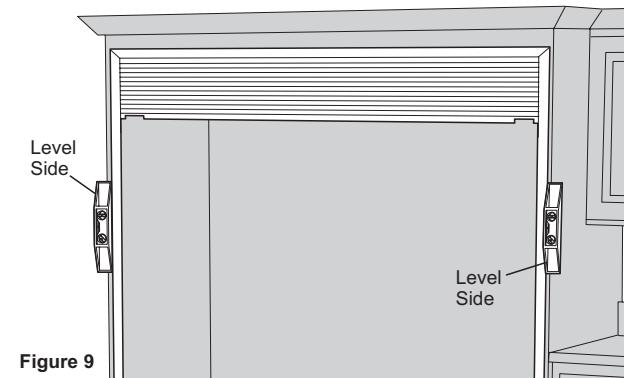

Figure 9
- Using a carpenter's level, check that each side is vertical. Shim as necessary. Next, secure top and bottom of each side trim to cabinetry using two 3/4" mounting screws (K). See Figure 9.